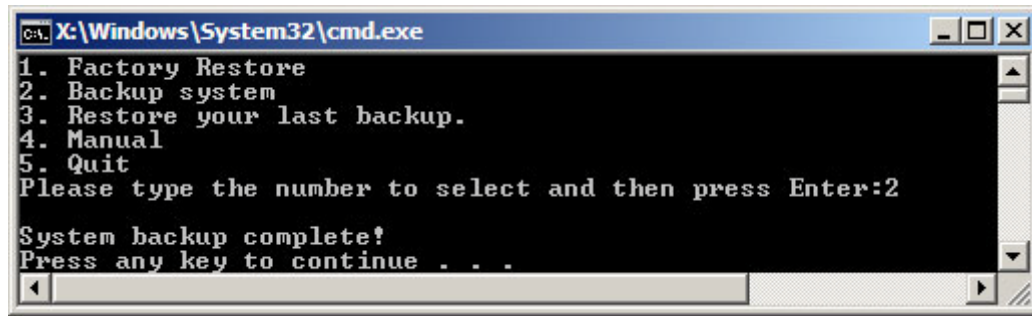

Figure C-37: System Backup Complete Window
Step 3: The screen shown in **Figure C-37** appears when system backup is complete.